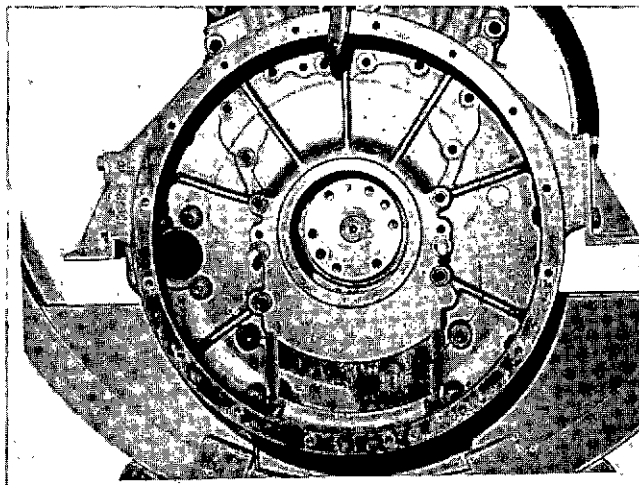

Fig. 0-37, V40069. Removing flywheel housing.
4. Using suitable hoist, lift housing from guide studs. Fig. 0-37.